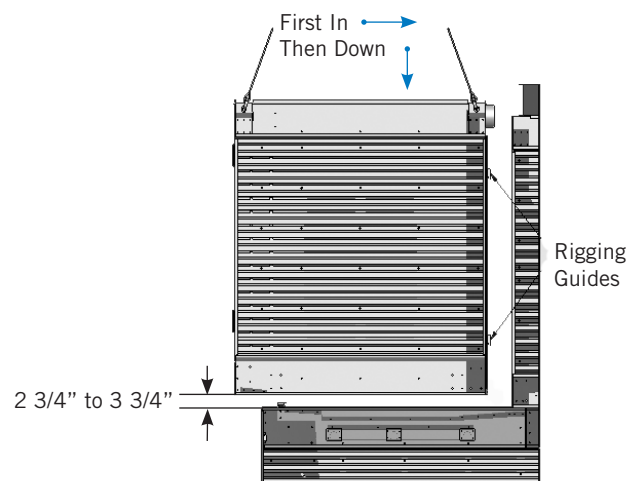

Figure 18. Coil Module Rigging
- To engage the rigging guides, the coil module must be positioned between 2 3/4" and 3 3/4" above the lower section as it is moved towards the plenum module. Once the coil module rigging guides have engaged the plenum module corner columns, lower the coil into final position as shown in **Figure 18**.